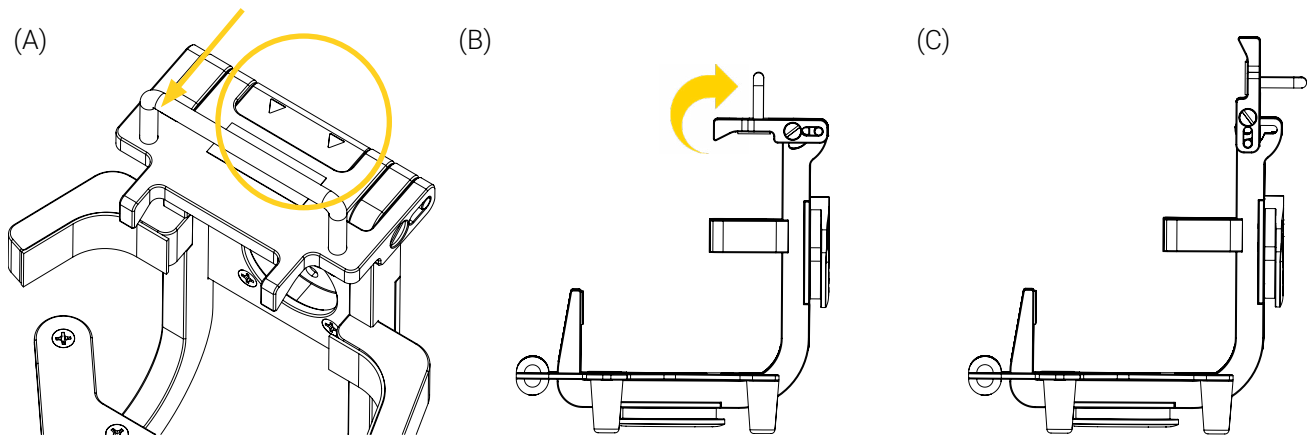

Figure 5: Unlocking and opening the support bracket
1. Press and hold the quick release button of the support bracket (Figure 5 A), then flip the top towards the back (Figure 5 B and Figure 5 C).